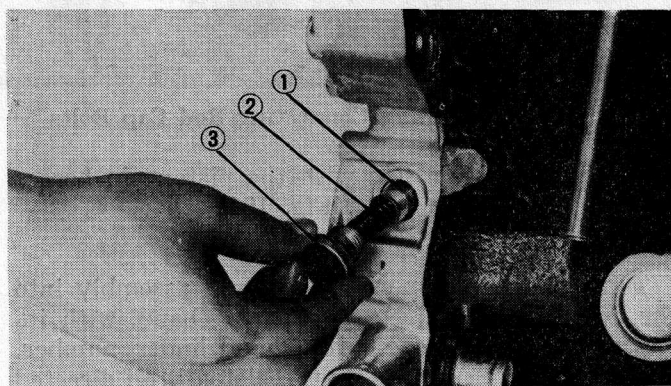

Fig. 110 Installing the Tensioner Holder
(15) Attach the gasket and then install the timing chain case to the cylinder block.
(16) Insert the tensioner lever plunger (1) and the spring (2) through the hole made in the right-hand side of the chain case and tighten the holder (3). (Fig. 110)